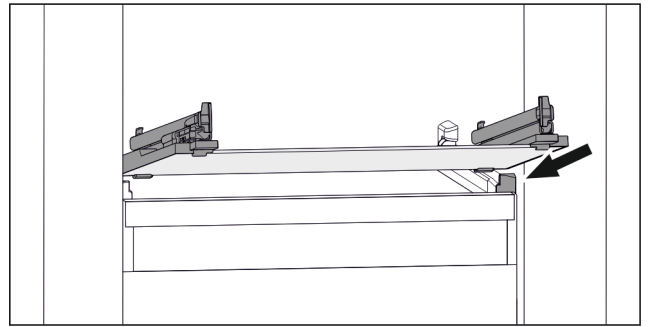

Fig. 113 Example illustration of glass shelf
- ▶ Position glass shelf at an angle behind the stoppers. (see Fig. 113)